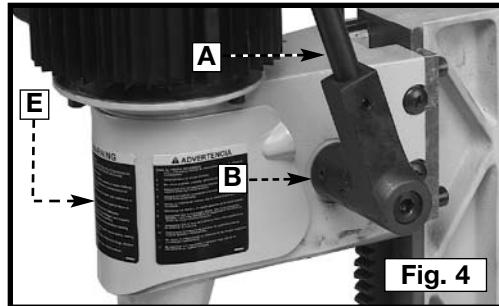

Fig. 4
2. Raise the mortising machine head (E) Fig. 4 to the "up" position by turning the handle (A) clockwise.